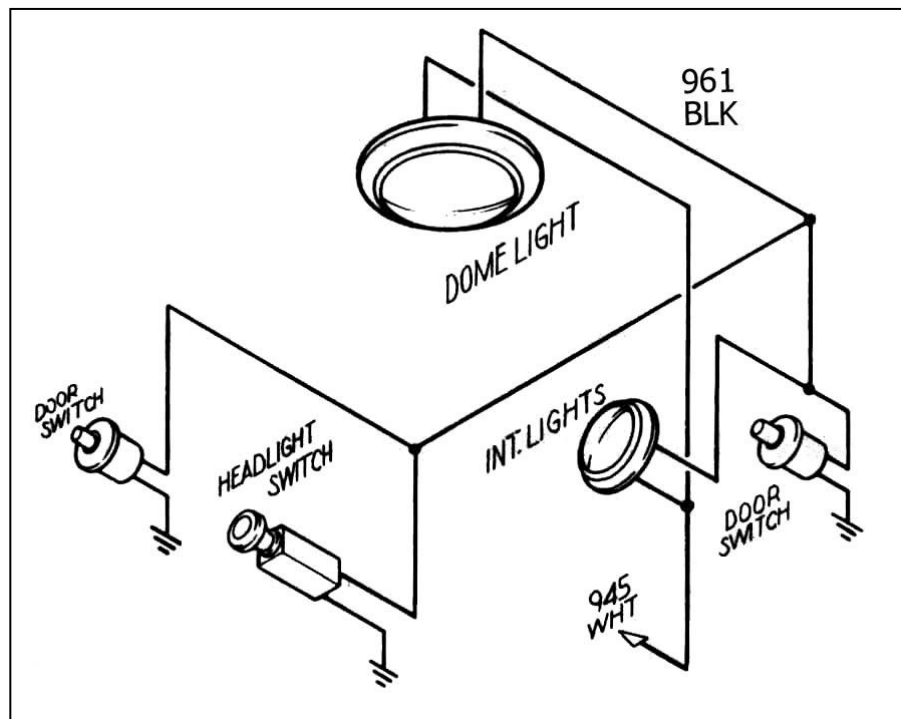

Figure 8.1 Interior Lighting (Door Jamb Switch – Painless Part #80170)
8.1 Interior Lighting. See Figure 8.1